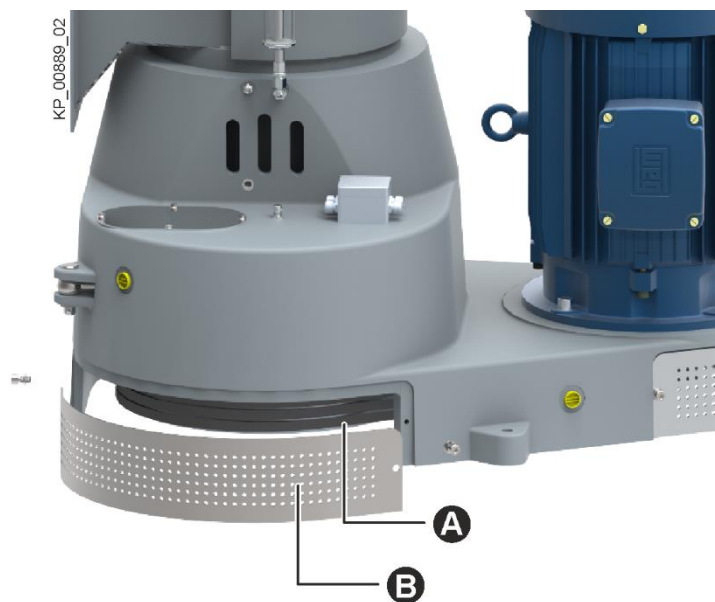

Fig. 12: V-belt tension
Pay attention to the tension of the V-belts (Fig. 12/A). The V-belts must not slip during operation. Property damage may be the result.
- Remove the V-belt guard (Fig. 12/B) from the lower part.
With a test pressure of 7.5 kg (strong thumb pressure) (Fig. 12/A), the V-belts must give way as follows at half centre distance:
- Mount the V-belt guard (Fig. 12/B) to the lower part again.